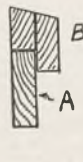

Fig. 6
This is effected by either rebating the piece B or, what is simpler, making B of two pieces of $\frac{1}{2}$ in. thick wood and nailing them together, as in Fig. 6. Piece B is then nailed to the front of hive, between the porch sides. The brood chamber can now be fitted to the floor section.
- Fig. 6. Piece B rebated to fit slides A.
The modern type overlay shown in Fig. 6 should be cut from 3/16 in. wood, the squares shown being one-inch sided for enlarging and transferring to the wood. Cut it out carefully with a fine fretsaw and glue it in the middle of the plywood panel. In the centre of the overlay will be glued one of Hobbies wood ornaments No. 213.